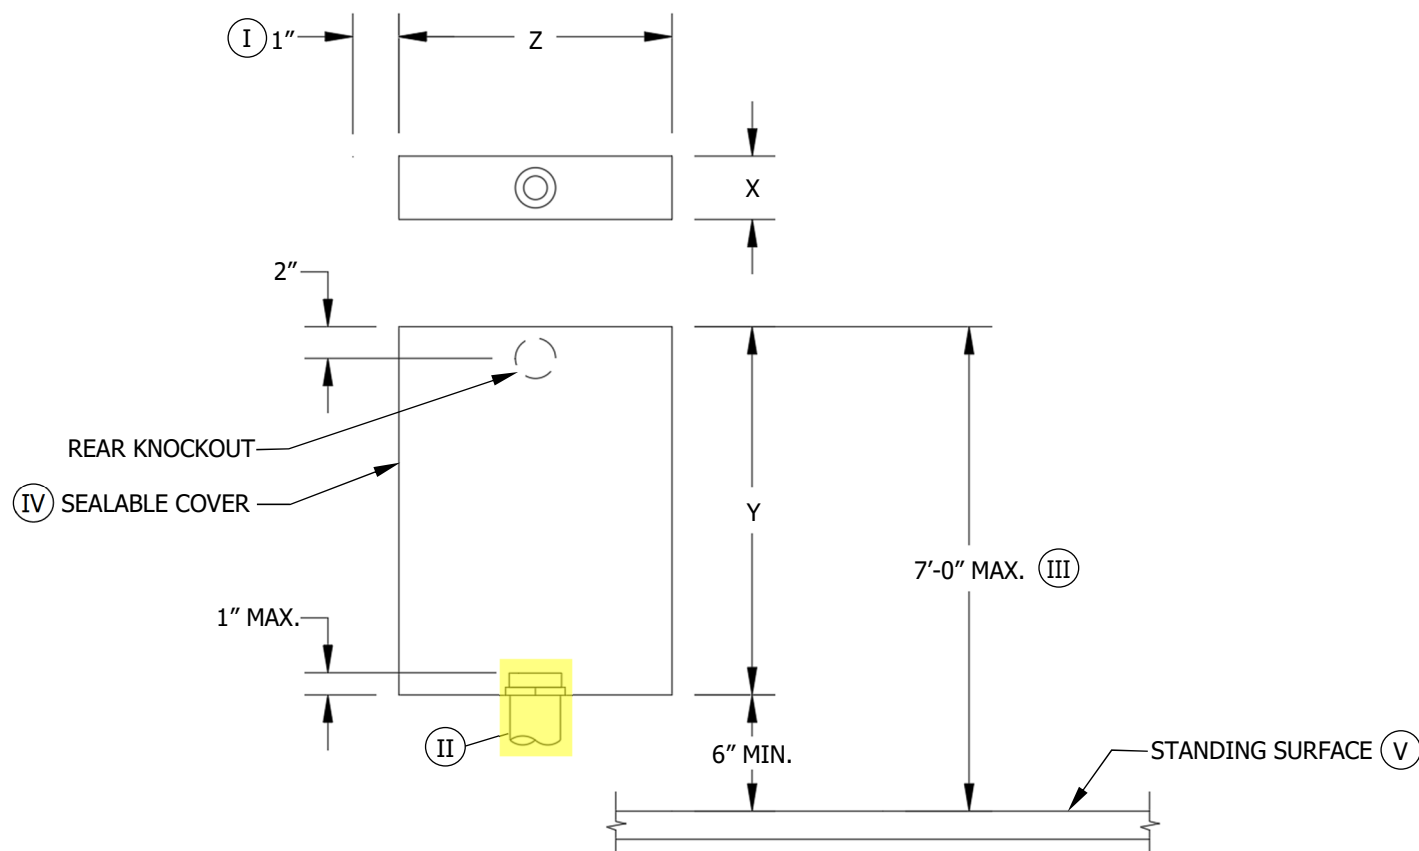

FIGURE 1
- I SERVICE ENTRANCE CONDUCTORS AS SHOWN IN FIGURE 1, EITHER CABLE OR BUS BAR, ARE FURNISHED AND INSTALLED BY CUSTOMER IN THE FOLLOWING MANNER:
- b. WHEN SWITCHBOARDS ARE SERVED THROUGH CABLE CONDUCTORS (800A MAXIMUM), SERVICE ENTRANCE CONDUCTORS SHALL ENTER THROUGH THE TOP OF THE SWITCHBOARD ONLY AS SHOWN IN FIGURE 1.